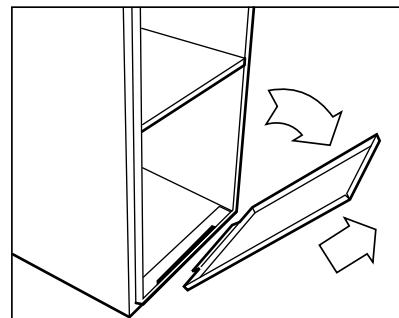

Fig. 22 - Blower Access Panel
- b. Remove blower access panel. (See Fig. 22.)